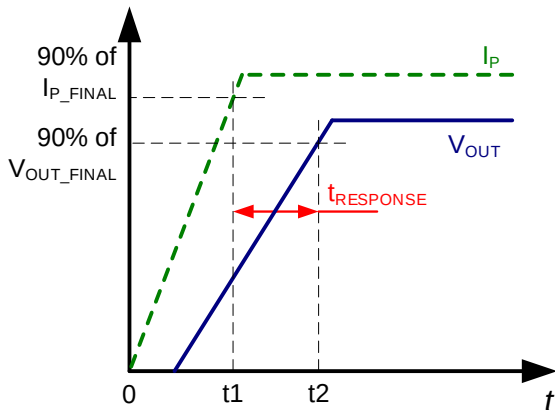

Figure 8: Response Time (t_{RESPONSE})
2. t_2 : V_{OUT} reaches 90% of V_{OUT_FINAL} , as it corresponds to the applied I_P (see Figure 8).